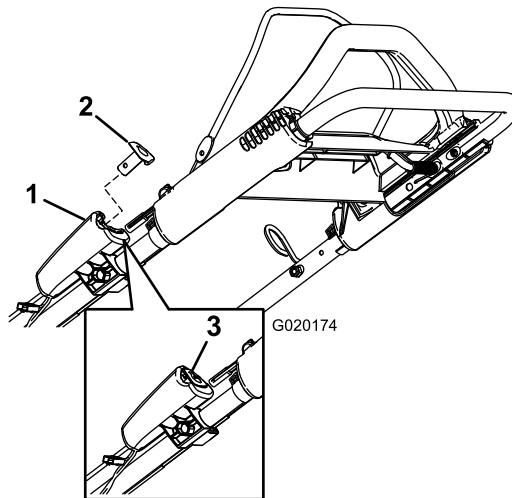
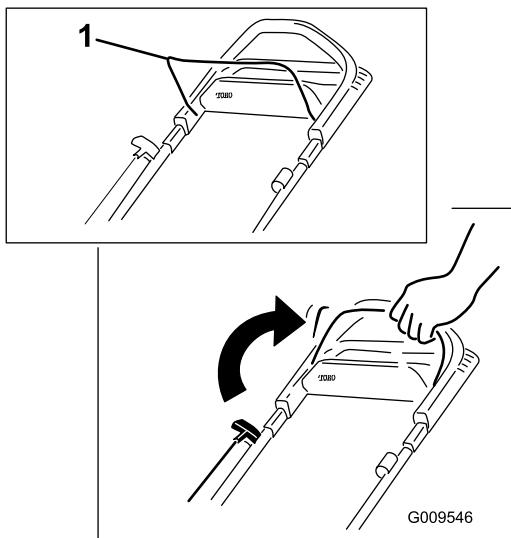

Figure 14
Figure 13
Note: If the electric-start button if it has been removed, insert it in the electric starter; refer to Figure 14(electric-start model only).
2. Push the electric-start button (Figure 14) (electric-start model only) or pull the recoil start handle (Figure 13).